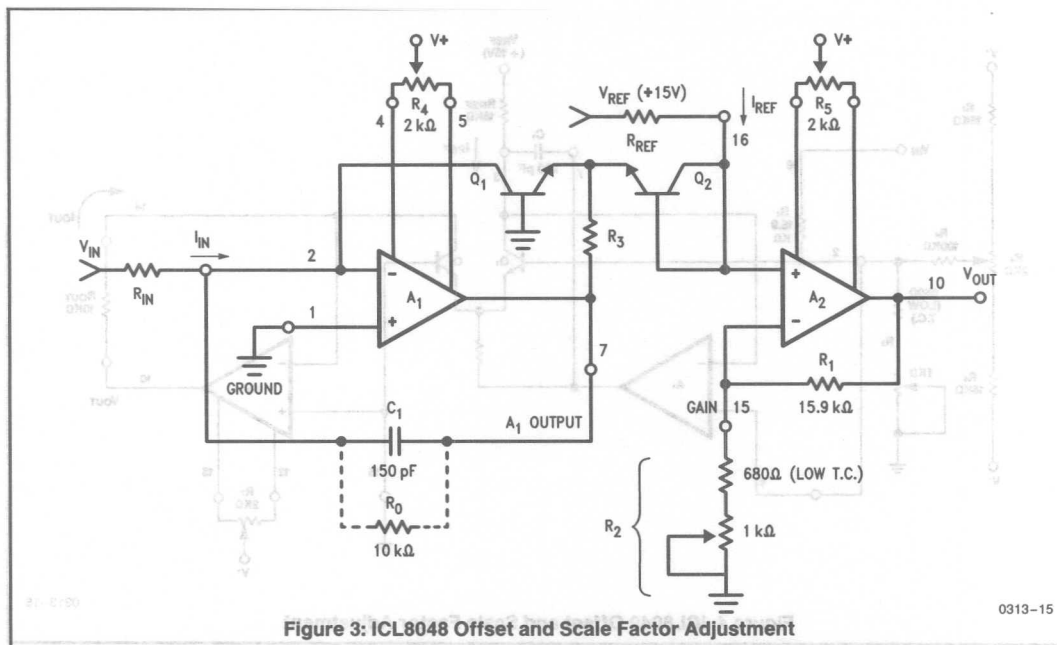
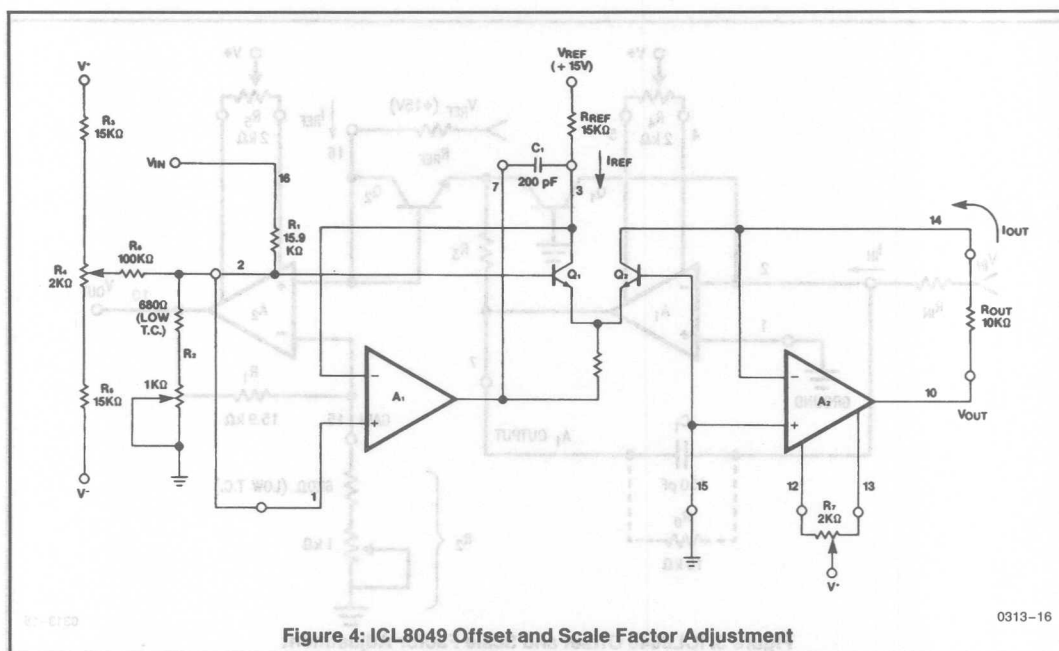

Figure 3: ICL8048 Offset and Scale Factor Adjustment
Figure 4: ICL8049 Offset and Scale Factor Adjustment
Referring to Figure 3, it is clear that the potential at the collector of Q_2 is equal to the ΔV_{BE} between Q_1 and Q_2 . The output voltage is ΔV_{BE} multiplied by the gain of A_2 :
A log amp, unlike an op-amp, cannot be offset adjusted by simply grounding the input. This is because the log of zero approaches minus infinity; reducing the input current to zero starves Q_1 of collector current and opens the feedback loop around A_1 . Instead, it is necessary to zero the offset voltage of A_1 and A_2 separately, and then to adjust the scale factor. Referring to Figure 3, this is done as follows:
The ICL8049 relies on the same logarithmic properties of the transistor as the ICL8048. The input voltage forces a specific ΔV_{BE} between Q_1 and Q_2 (Figure 4). This V_{BE} difference is converted into a difference of collector currents by the transistor pair. The equation governing the behavior of the transistor pair is derived from (2) on the previous page and is as follows:
As with the log amplifier, the antilog amplifier requires three adjustments. The first step is to null out the offset voltage of A_2 . This is accomplished by reverse biasing the base-emitter of Q_2 . A_2 then operates as a unity gain buffer with a grounded input. The second step forces $V_{IN} = 0$; the output is adjusted for $V_{OUT} = 10V$. This step essentially "anchors" one point on the transfer function. The third step applies a specific input and adjusts the output to the correct voltage. This sets the scale factor. Referring to Figure 4, the exact procedure for 1 decade/volt is as follows:
By adjusting R_2 (Figure 3 and Figure 4) the scale factor "K" in equation 9 and 10 can be varied. The effect of changing K is shown graphically in Figure 5 for the log amp, and Figure 6 for the antilog amp. The nominal value of R_2 required to give a specific value of K can be determined from equation 11. It should be remembered that R_1 has a $\pm 20\%$ tolerance in absolute value, so that allowance shall be made for adjusting the nominal value of R_2 by $\pm 20\%$.
Although the op-amps in both the ICL8048 and the ICL8049 are compensated for unity gain, some additional frequency compensation is required. This is because the log transistors in the feedback loop add to the loop gain. In the 8048, 150pF should be connected between Pins 2 and 7 (Figure 3). In the 8049, 200pF between Pins 3 and 7 is recommended (Figure 4).
In both the ICL8048 and the ICL8049 the input current reference pin (I_{REF}) is not a true virtual ground. For the ICL8048, a fraction of the output voltage is seen on Pin 16 (Figure 3). This does not constitute an appreciable error provided V_{REF} is much greater than this voltage. A 10V or 15V reference satisfies this condition. For the ICL8049, a fraction of the input voltage appears on Pin 3 (Figure 4), placing a similar restraint on the value of V_{REF} .